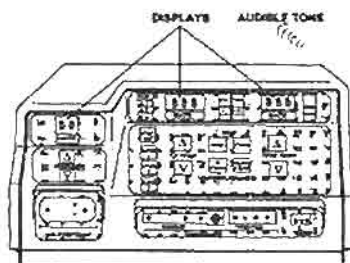
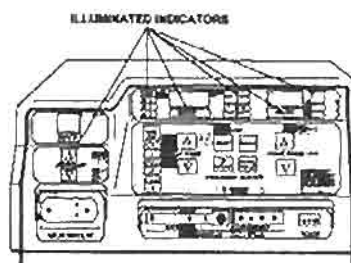

Figure 3-12. Self-test displays.
Figure 3-13. Self-test illuminated indicators.
- c. Observe the control panel. The following control panel actions will automatically occur (fig 3-12 and fig 3-13).